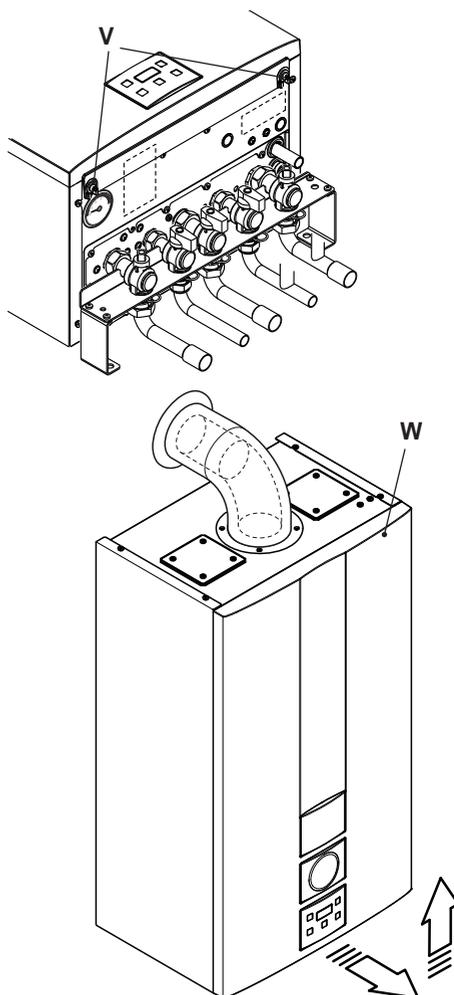

Fig. 6.14
- Unscrew screws "V" and remove the front panel "W" by pulling it and pushing it towards the top so that it is freed from the top housing Fig. 6.14.